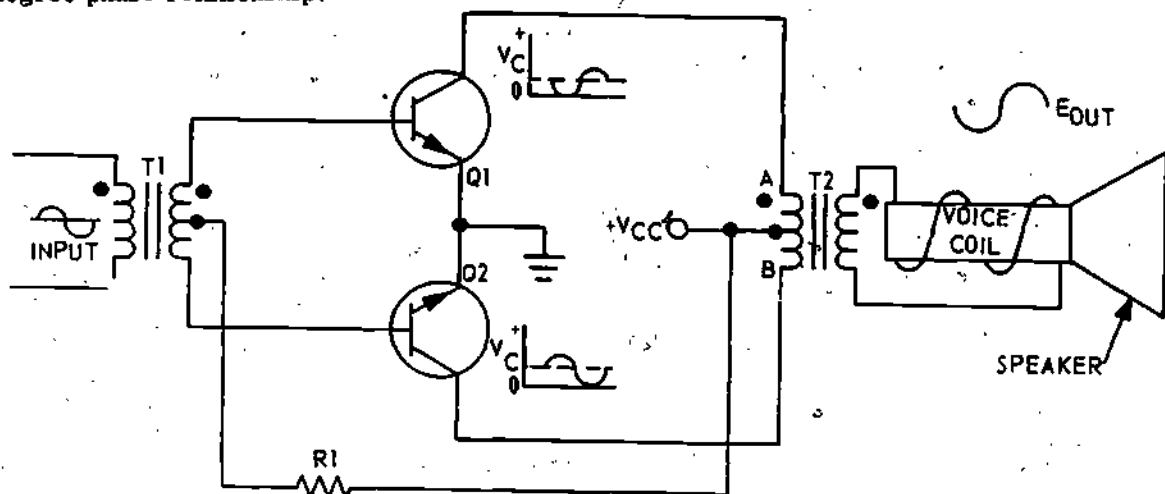

Figure 1. Class A, Push-Pull Power Amplifier
2. What is the purpose of R1 in figure 1?
5. Referring to figure 1, what is the voltage relationship between point A and point B with no input signal applied to Q1 and Q2? _____
6. Referring to figure 1, the positive alternation of the input signal will cause the conduction of Q1 to _____ and Q2 to _____.